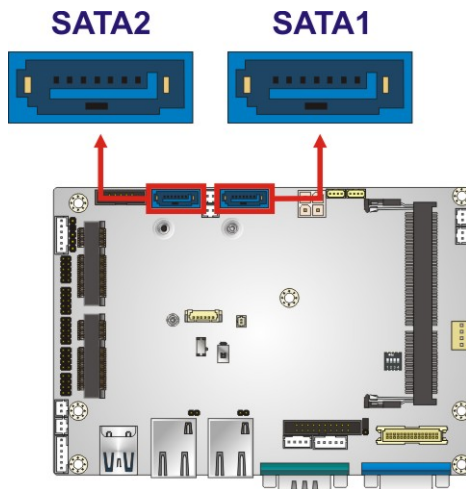

Figure 3-20: SATA 6Gb/s Connector Locations
- CN Location:** See **Figure 3-20**